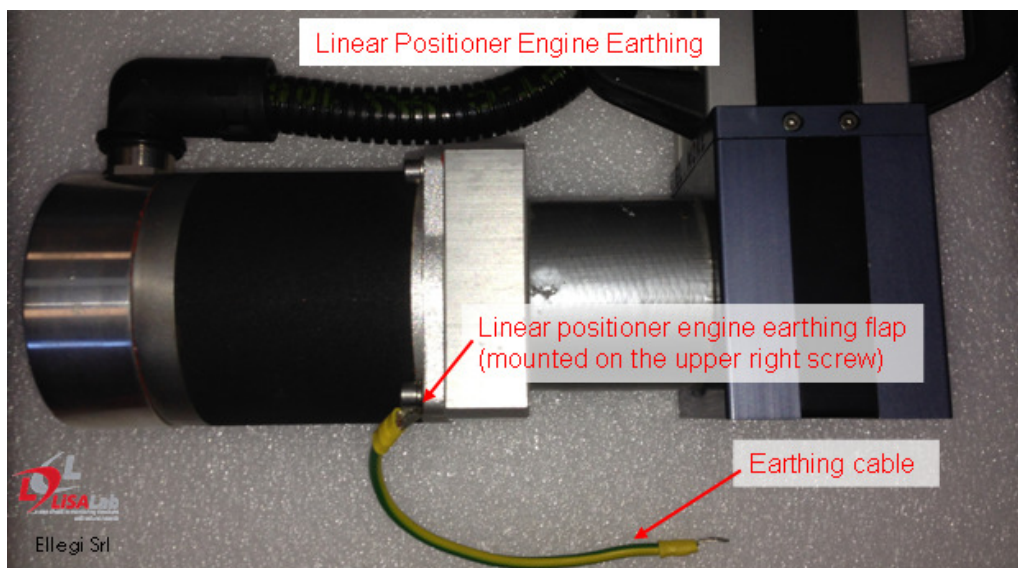

Figure 9: Step 3 of the installation procedure. Earthing of the linear positioner engine.
3. Use the earthing flap mounted on the upper right screw of the engine to perform the earthing (Figure 9). An earthing cable of adequate diameter must be used to connect the engine earthing flap to an earthing plant.